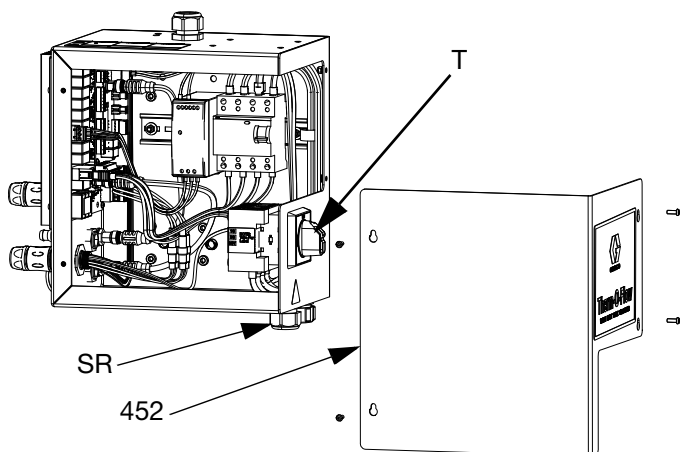

Fig. 9
3. Loosen the screws and remove the cover (452) on the Heat Control Box (S). See FIG. 9 on page 25.
4. Remove the two screws (433) and cover (457) from the bottom of the Heat Control Box (S).